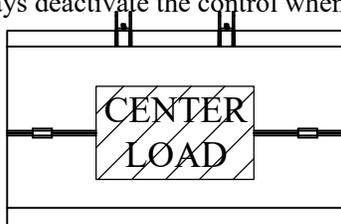

Figure 40: Step 8.
- To load and use the liftgate, center the load on the platform side to side and front to back (Figure 40). Put heavier loads as close to the front of the platform (near truck) as possible. Platform cart stops may be actuated at this time, if equipped.